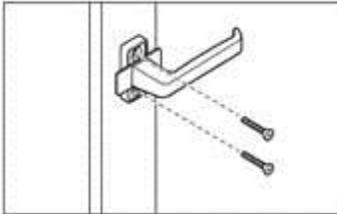

Figure 4 Where to install the mounting screws
5. Insert the screws that came with the handle and tighten them. See *fig. 4*.